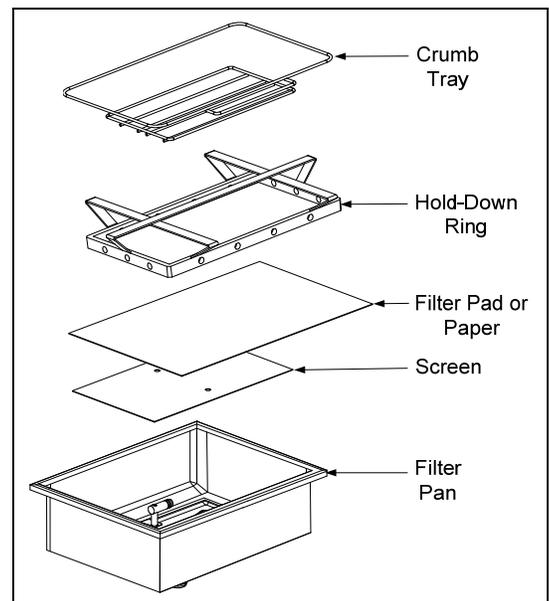

Figure 1
1. Pull the filter pan out from the cabinet and remove the crumb tray, hold-down ring, filter paper and filter screen (see Figure1). Clean all components with a solution of detergent and hot water then dry thoroughly.
3. Then in reverse order, place the metal filter screen in the center of the bottom of the pan, then lay a sheet of filter paper on top of the screen, overlapping on all sides (see Figure1). If using a filter pad, ensure the rough side of the pad is up and lay the pad over the screen, making sure that the pad is in between the embossed ridges of the filter pan.